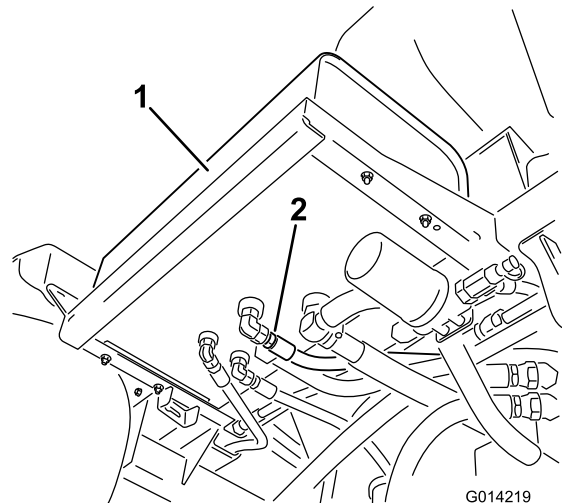

Figure 96
2. Clean the area around a hydraulic-hose fitting on the bottom of the hydraulic-fluid tank (Figure 96).
4. Remove the hose fitting from the tank, allowing the fluid to drain into the pan (Figure 96).